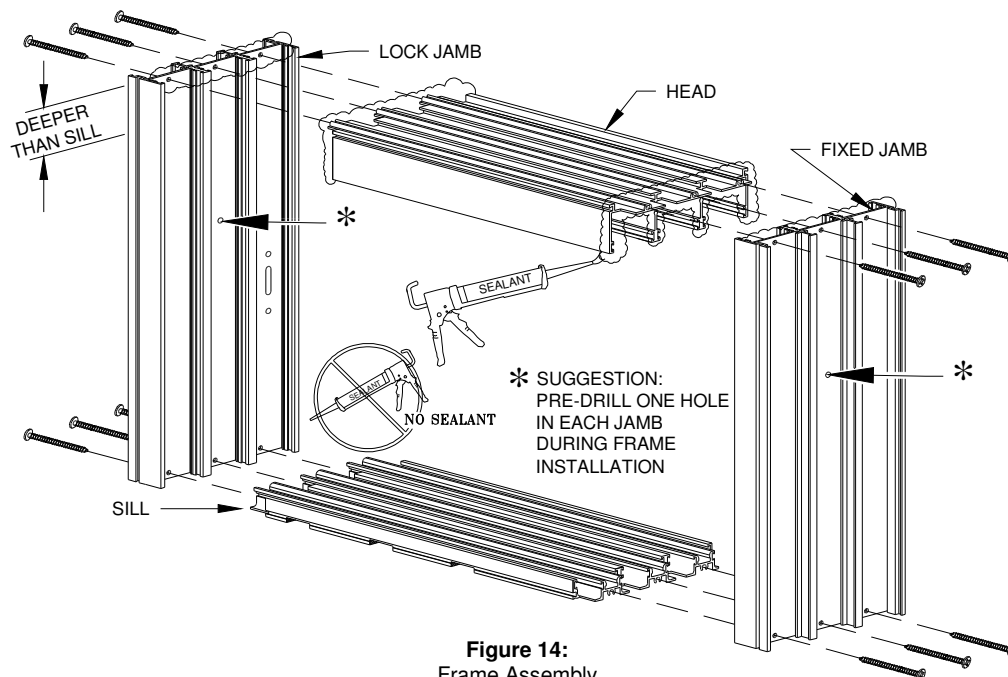

Figure 14:
2. Add sealant to the upper corners of the jamb(s) and to the end of the head that is compatible to the entire assembly (Figure 14).